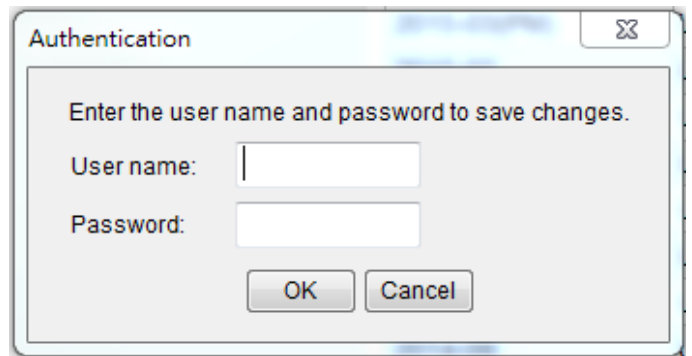

Figure 3. Authentication window.
7. You will need to enter a User Name and Password for the Remote Management Card in the authentication window, as shown in Figure 3.